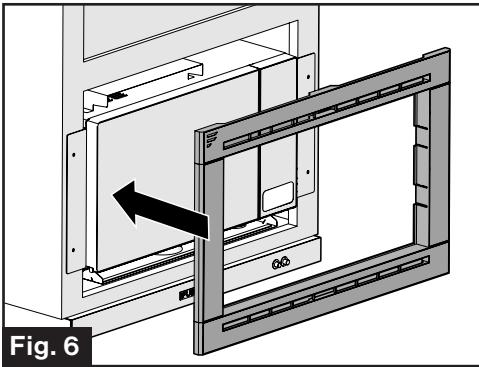
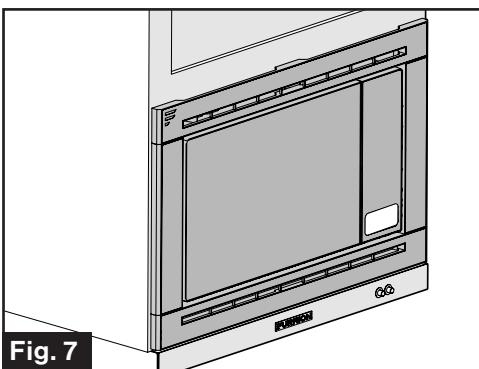

Fig. 6
Fig. 7
6. Install the assembled trim kit over the microwave oven and push to lock into place. (Fig. 6 and Fig. 7)